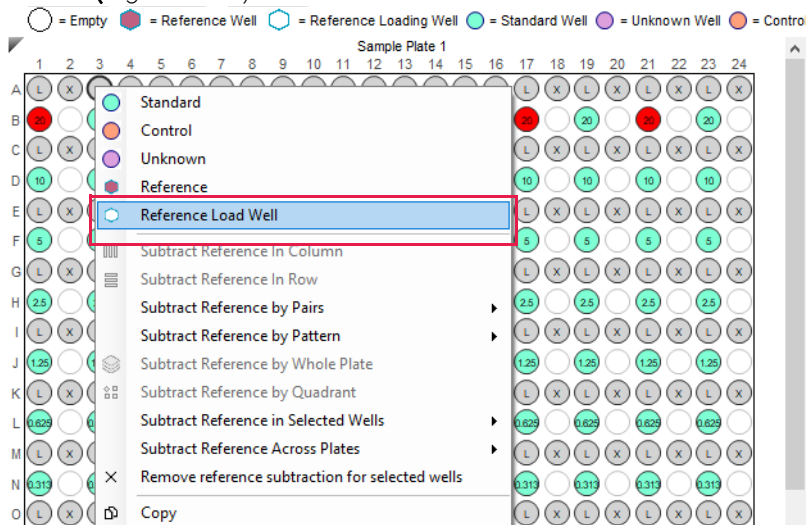

Figure 9-20: Change Well Type Options with Reference Load Well
- A well that contains no load, capture or ligand should be designated as a **Reference Load Well** (Figure 9-20).